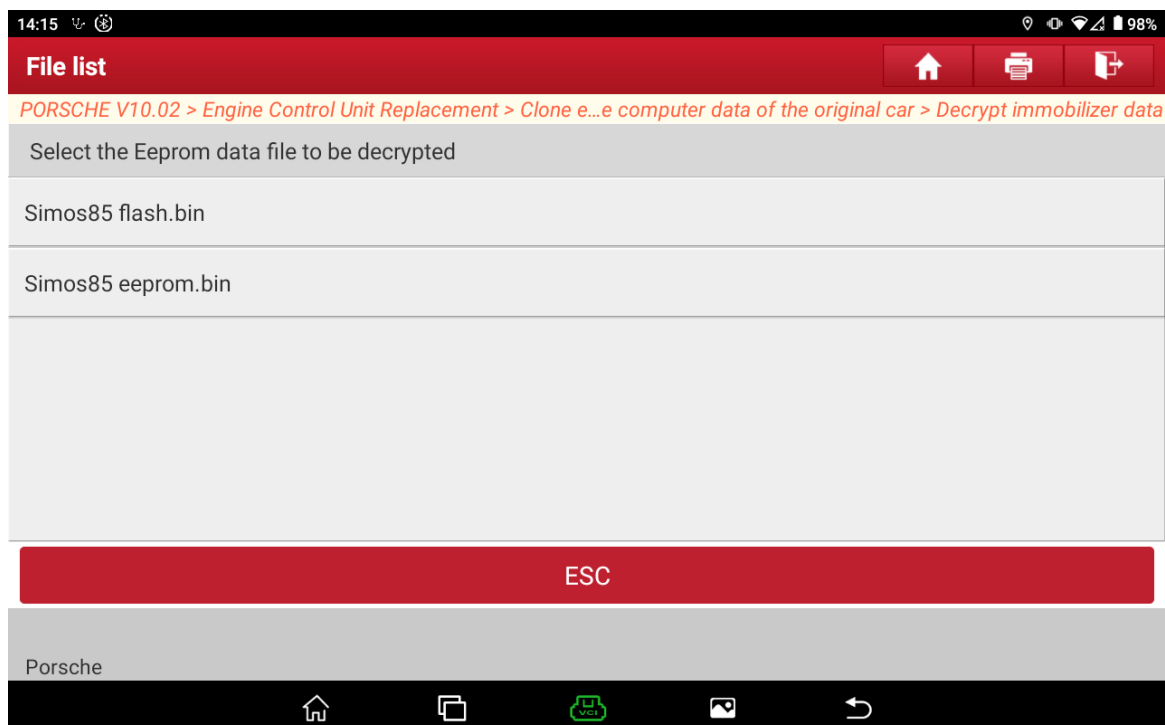
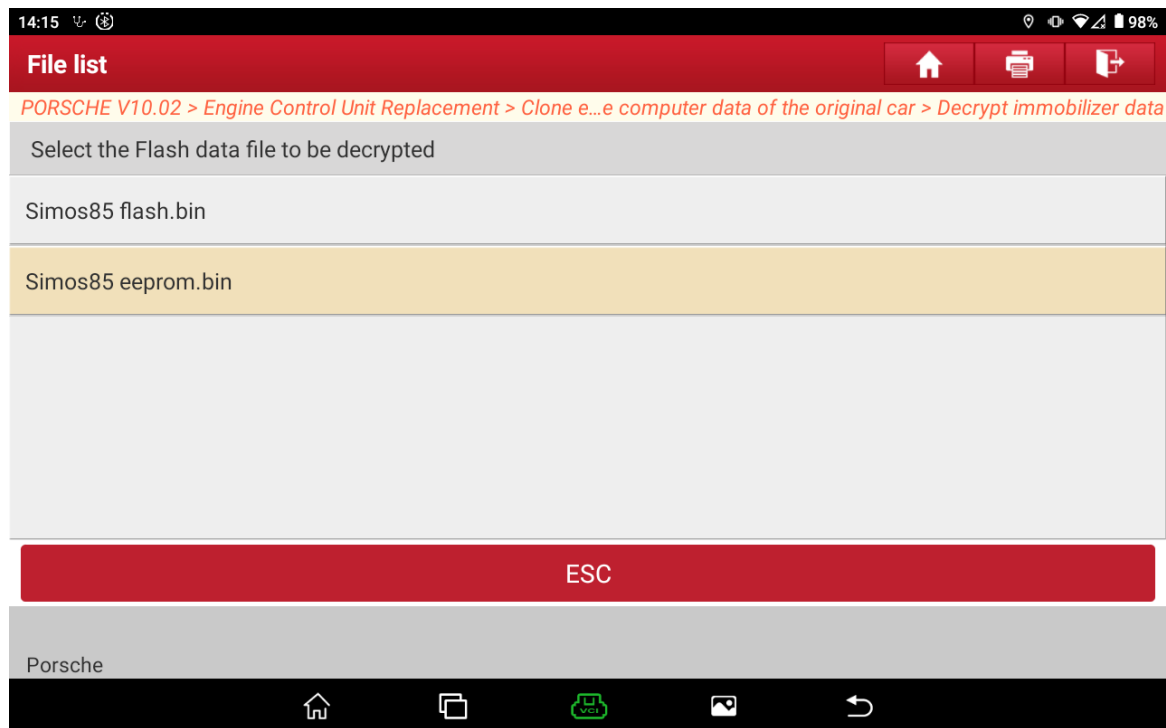
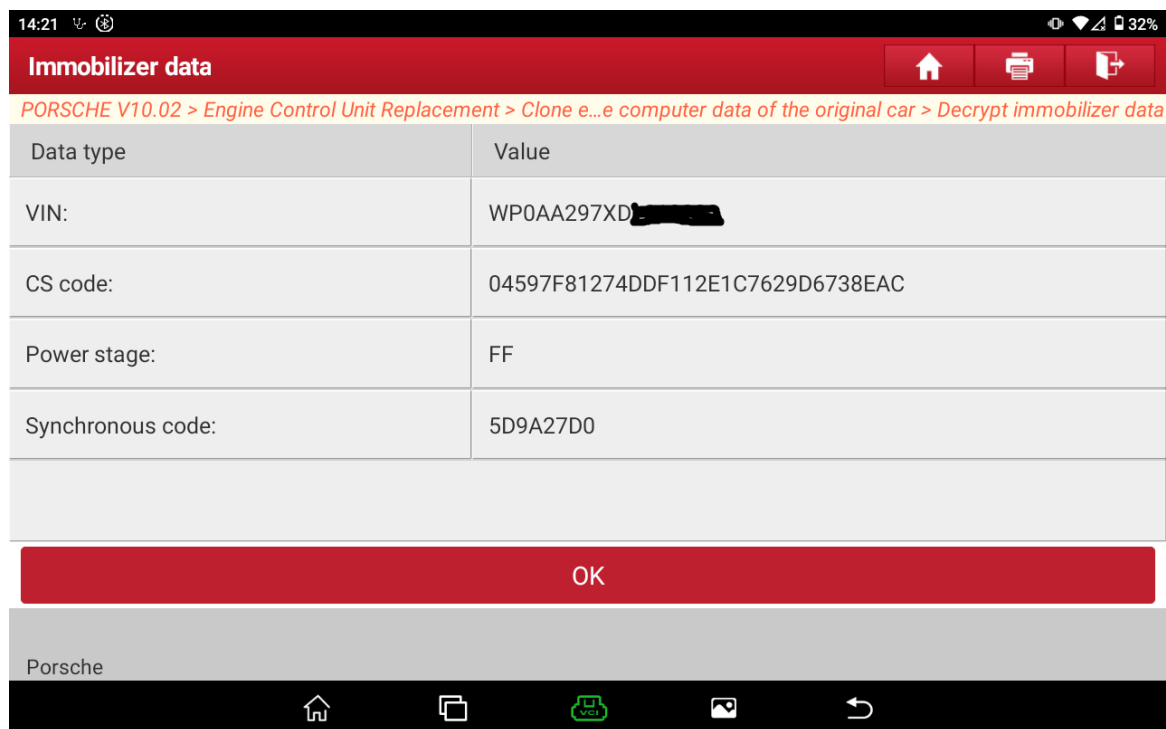

Figure 12
Figure 13
Figure 14
8. Choose [Decrypt immobilizer data] and load the backed-up data file, as shown in Figure 12 and Figure 13. The decryption result is shown in Figure 14.